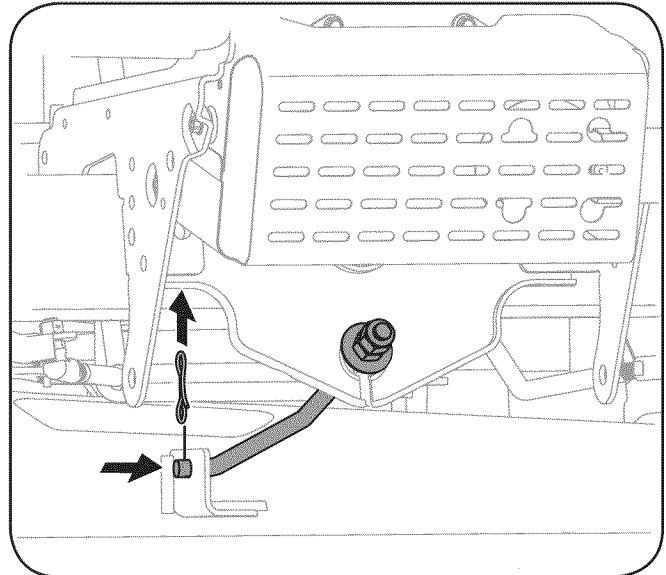

Figure 7-3
8. **On 42" decks:** Remove the bow-tie cotter pin securing the deck stabilizer rod to the deck. Slide the deck lift rod from the mounting weldment on the deck as seen in Fig. 7-3.